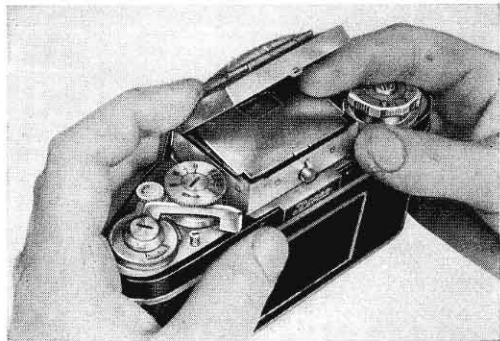

Fig. 9
Before closing the finder-hood (11) make sure that the critical focusing magnifier (13) is in its neutral position (Section E). Fold the two side-walls of the finder-hood (in either order), then the back wall (15), and finally the front cover until it snaps into position (Fig. 9).